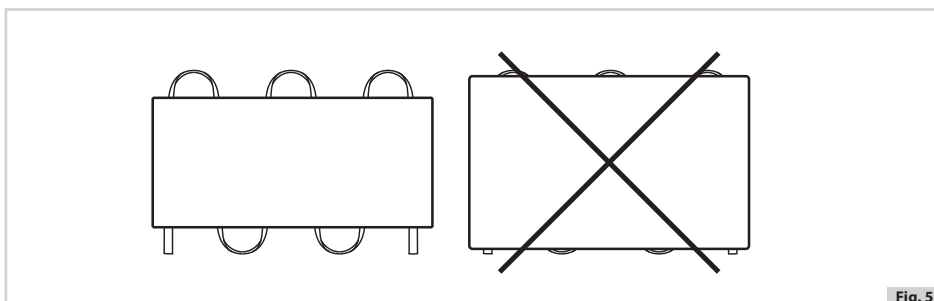

Fig. 5
- 8.12 When mounting CTE series Trace Heater, it is not allowed to step on the Trace Heater, put tools, equipment, other heavy objects or objects with sharp edges on it. To prevent mechanical damage during Trace Heater laying and casting the screed, use only smooth board or plywood boards placed on flat parts of sections (see Figure 5).